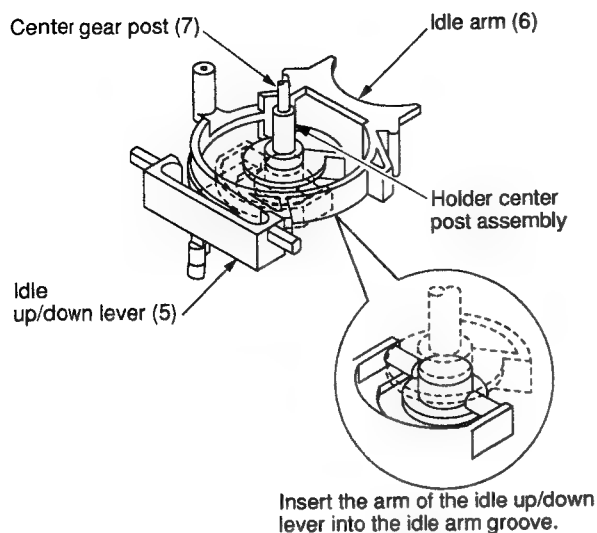

Fig. 6-34-2
- Stop ring (1) is impossible to use again.
- When mounting the parts, take care of the notice shown in Fig. 6-34-2.